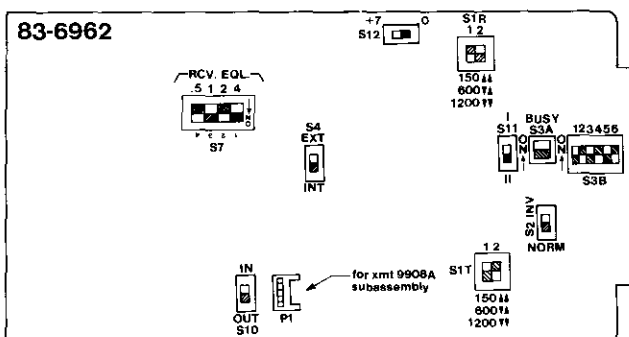

figure 5. 6962 option switch locations
3.06 All options on the 6962 and 6962A modules are selected via slide or DIP switches whose locations on the modules' printed circuit boards are shown in figures 5 and 6. The location of the
3.20 If an optional Tellabs 9908A Active Slope Equalizer subassembly will be used in the transmit channel of the 6962 or 6962A, plug the subassembly into five-pin connector P1 on the module's printed circuit board, and install and tighten the screw that secures the subassembly's standoff post to the main board. If a 9908A subassembly will be used in the receive channel of the 6962A, plug that 9908A into five-pin connector P2 on the module's printed circuit board, and install and tighten the screw that secures the subassembly's standoff post to the main board. Locations of connector P1 on the 6962 and of connectors P1 and P2 on the 6962A are shown in figures 5 and 6, respectively.